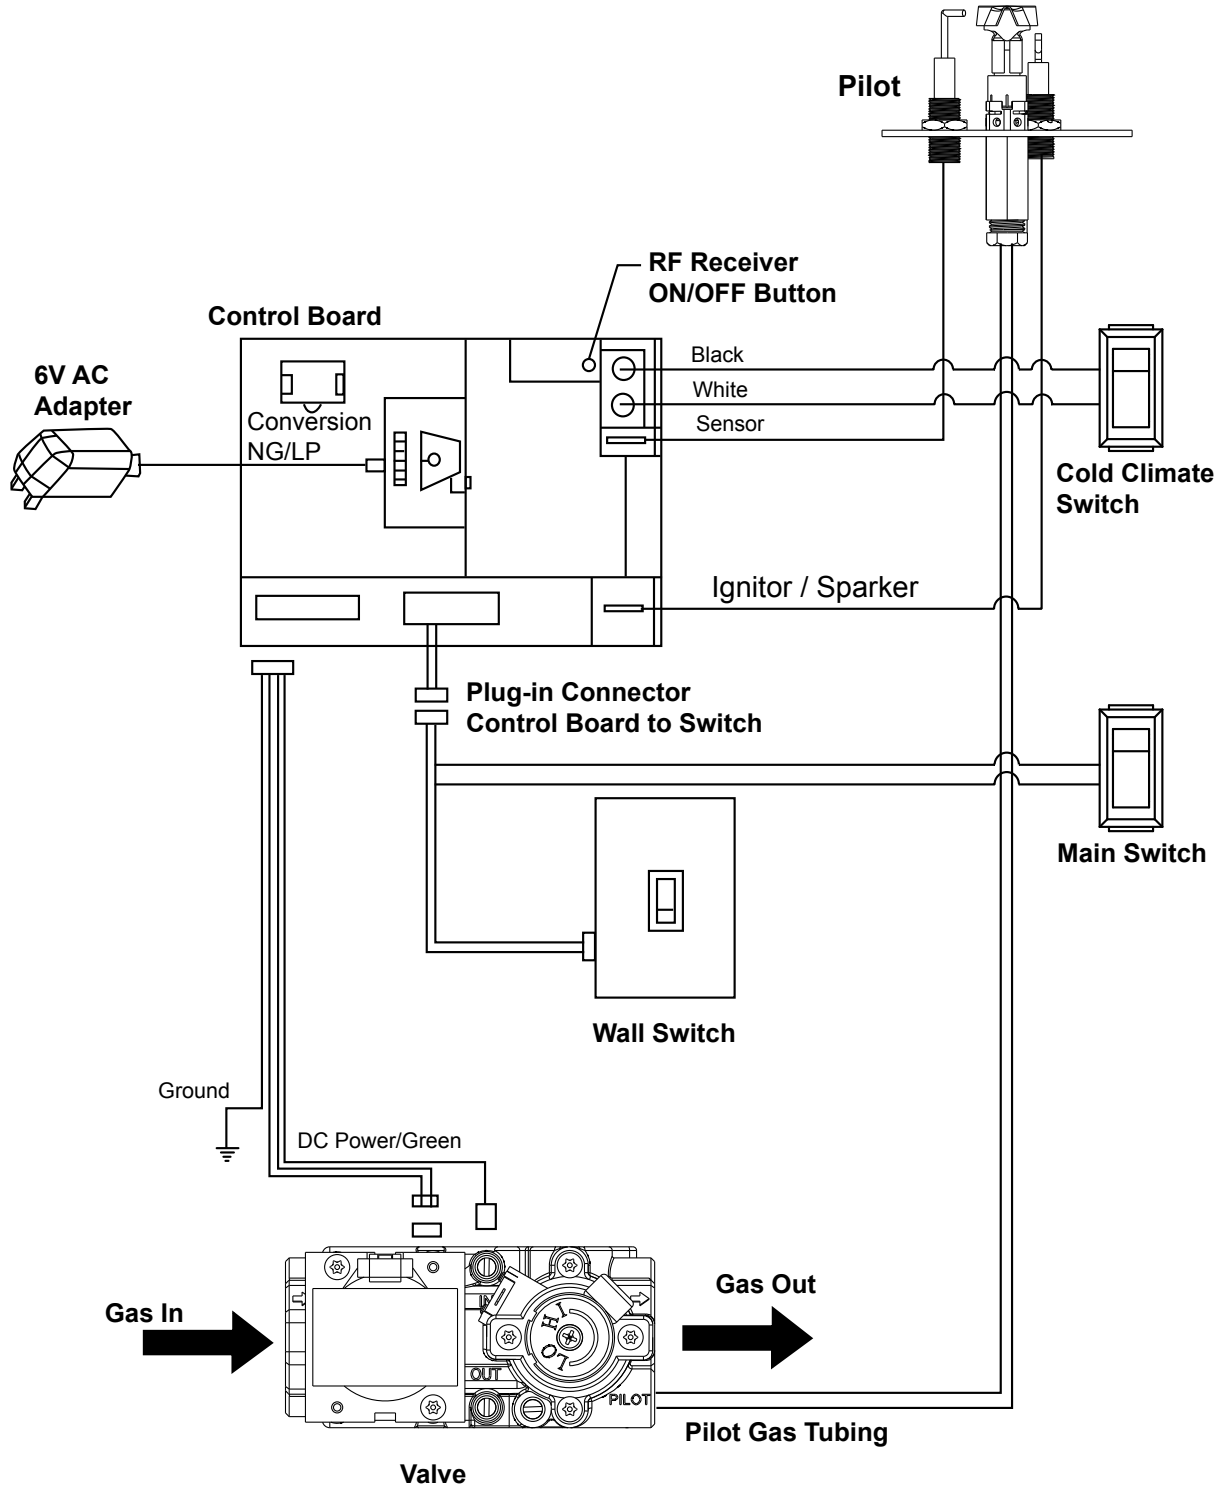

Figure 54 - IPI System Wiring Diagram
The wall switch wire connection is located off the wire harness coming out of the IPI Control Board. The label is wired 'wall switch'. Connect the low voltage switch wires to the two (2) terminals labeled "wall switch" from the control board. Run wire to desired location on wall. Up to 50 feet of 18 gauge wire may be used if necessary. Attach wires to wall switch. Mount the wall switch in a junction box and screw on cover. *Figure 54*